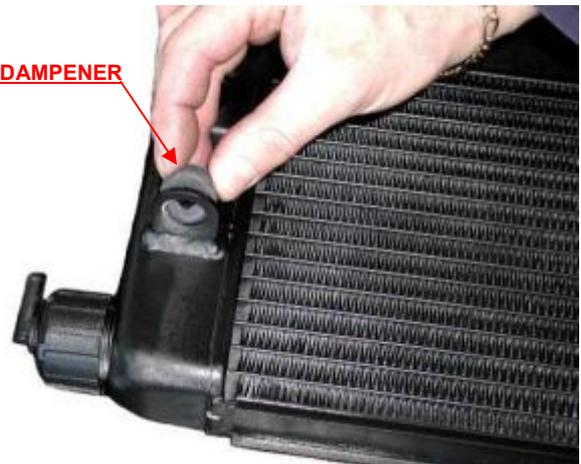

Fig.5
- 5 INSERT THE 4 RUBBER DAMPENERS INTO THE FIXING HOLES ON THE RADIATOR (SEE FIG. 5).